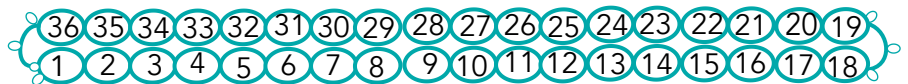

Fig. 1
*Ch: vsp 4 vsp 4 T & C to closest vsp on SR1* See fig. 1